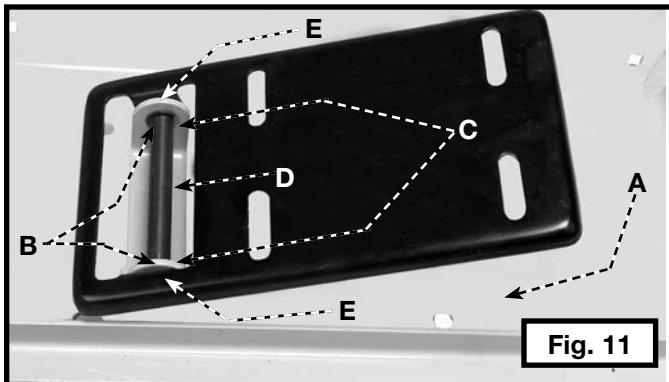

Fig. 11
1. Place the stand top (A) Fig. 11 on a flat surface.
2. Align the two holes in the motor mounting plate (E) Fig. 11 with the two holes (B) in the stand top (A).
3. Insert the shaft (D) through the holes in the motor mounting plate and the holes in the stand top.
4. Attach the two "C" rings (C) Fig. 11 to the shaft.